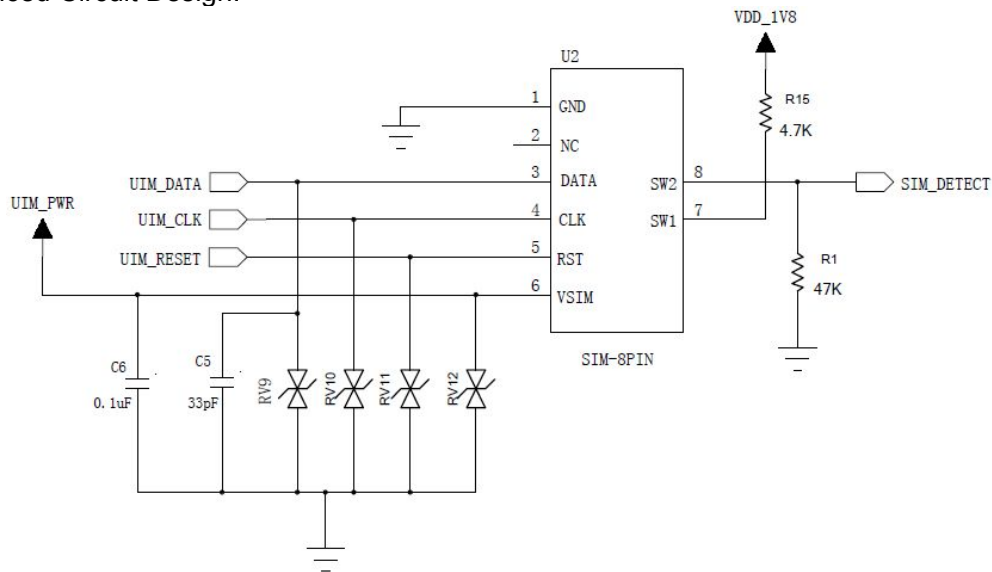

Figure5-8 “Reference Design of “Normally open” SIM Card Interface
- 2) For “normally open” SIM card, as shown in Figure 5-8. SIM_DETECT signal connects Pin8 (SW2) of U2 and pull down to ground through 47Kohm resistance. Pin 7 (SW1) shall be pulled up with 4.7Kohms. SW2 and SW1 is disconnected while SIM card is not inserted, so SW2 is low level. SW1 and SW2 is short-circuiting while SIM card installed, SIM_DETECT is pulled high.